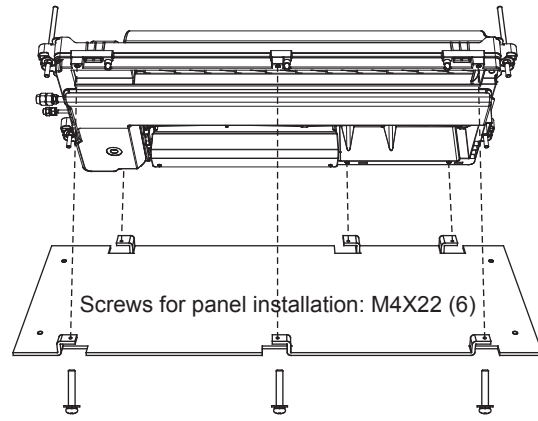

Figure 4.11
- 4.2) Affix the installation paper on the lower side of the indoor unit with the screws used to secure the plate (see Figure 4.11).